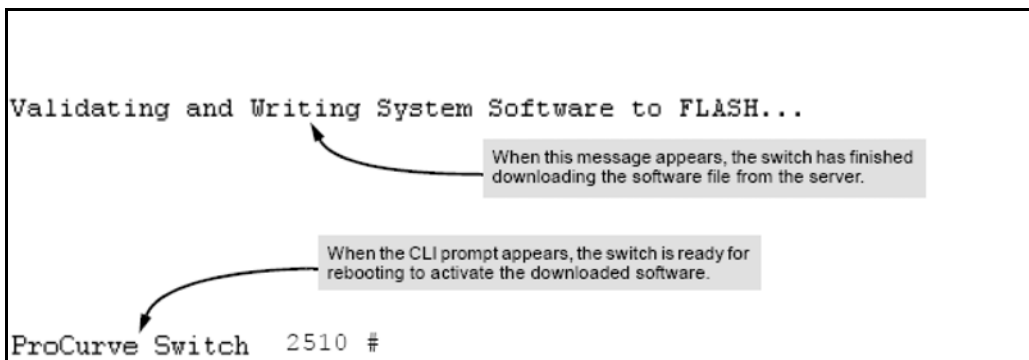

Figure 1. Message Indicating the Switch Is Ready To Activate the Downloaded Software
2. When the switch finishes downloading the software file from the server, it displays the progress message shown in figure 1. When the CLI prompt re-appears, the switch is ready to reboot to activate the downloaded software.